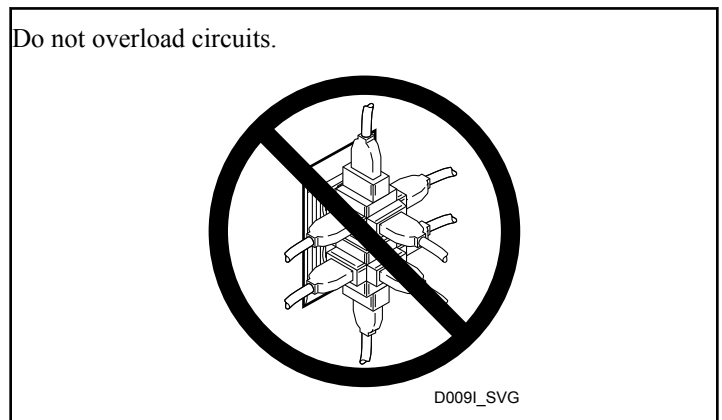

Figure 23
- DO NOT OPERATE OTHER APPLIANCES ON THE SAME CIRCUIT WHEN THIS APPLIANCE IS OPERATING. DO NOT OVERLOAD CIRCUITS. Refer to *Figure 23*.